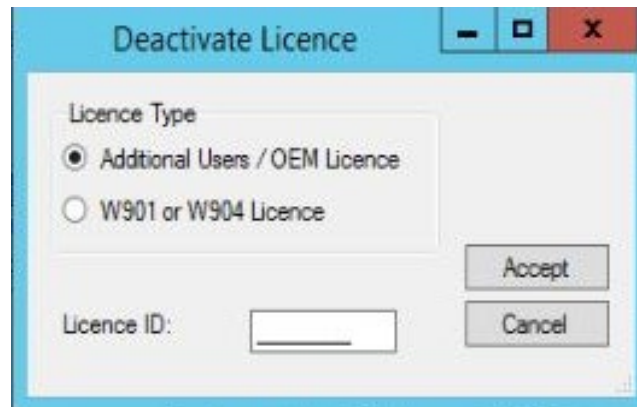

Figure 176
- a) Click on the **Additional Users/OEM Licence** radio button. See Figure 176 below: